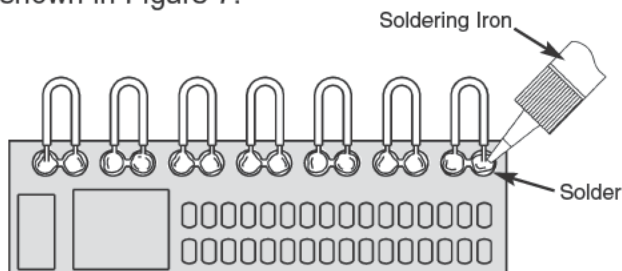

Figure 7
2. Place the iron and the wire on top right pad as shown in Figure 7. Allow the solder to flow around the wire. Then, remove the iron and let the solder cool. You may need to add some more solder. The solder should be neat and smooth.
4. Bend the wire and solder it to the next pad, as shown in Figure 7.
5. Now solder the remaining wires to the pads as shown in Figure 7.